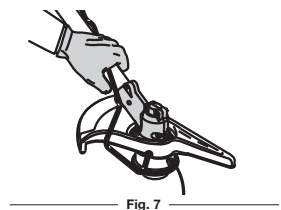

Fig. 7
2. Hold the locking rod in place by grasping it next to the boom of the unit (Fig. 7).